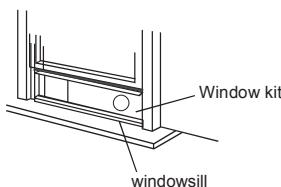

Fig.10
3. Cut the foam seal (adhesive type) to the proper length and attach it on the top of the window kit. See Fig.10.